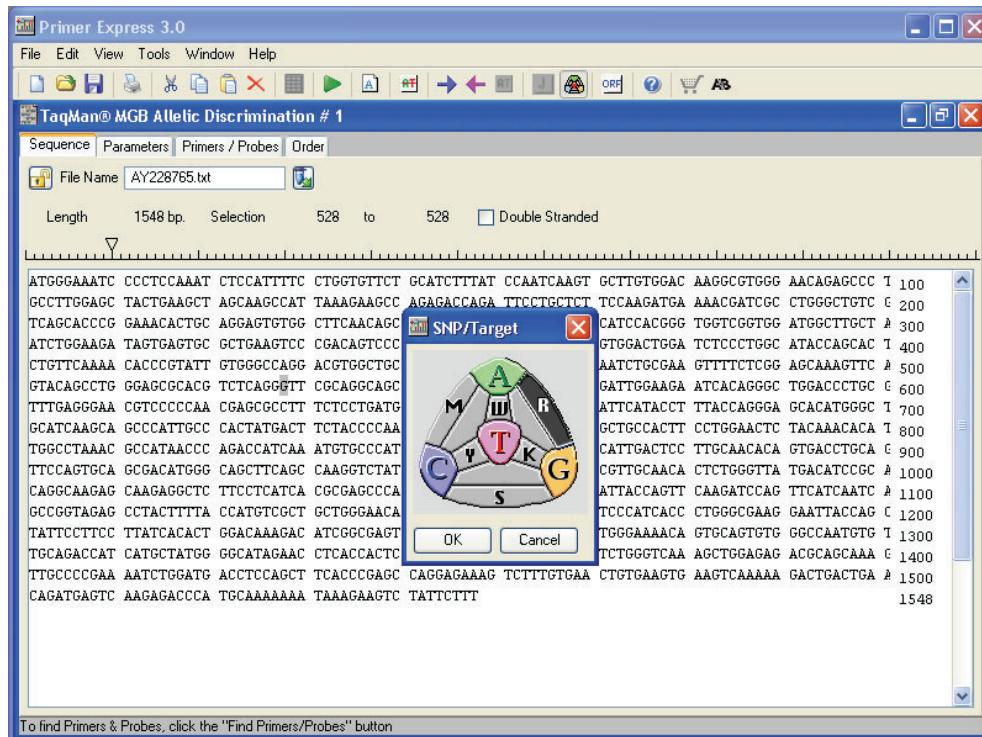

Figure 10. Determining variant using SNP Target Tool
2. Select **Edit > Annotate > SNP Target** () then select the variant for the SNP site. To determine the variant to select, find the two possible variant bases for your SNP, then click the code between the two bases. In the example sequence provided, the SNP target is located at position 528 as a G/A variant, so click **R**, then **OK** (see “Figure 10. Determining variant using SNP Target Tool” on page 33).